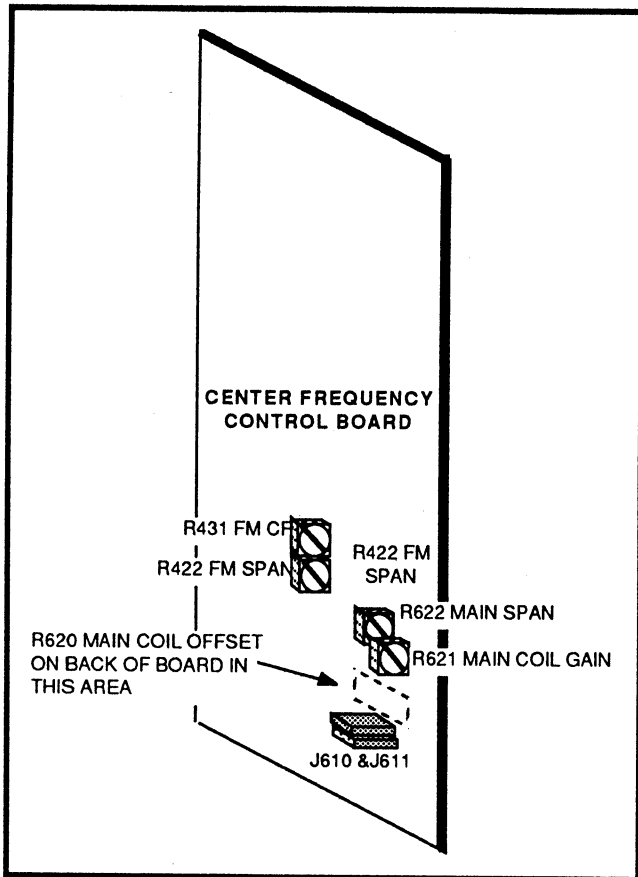

Figure 4-5. Center Frequency Control board adjustment locations.
f. Adjust R622 (Main Span) on the Center Frequency Control board for one mark per division. See Figure 4-5 for adjustment locations.